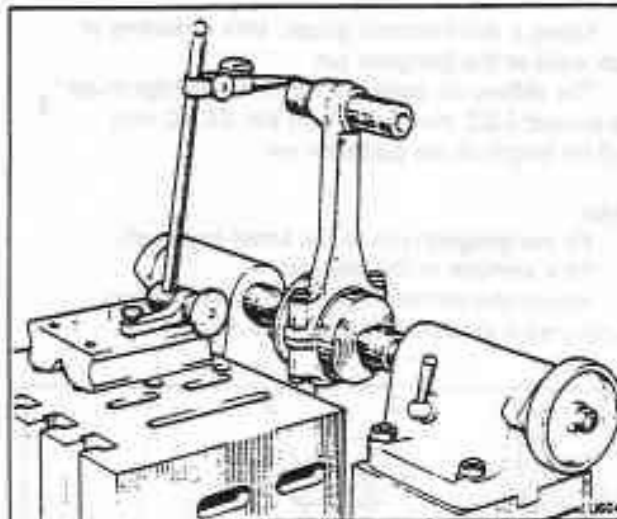

Fig. E6-10 Checking the connecting rod alignment
3. Mount the connecting rod on an inspection surface table as shown in figure E6-10.